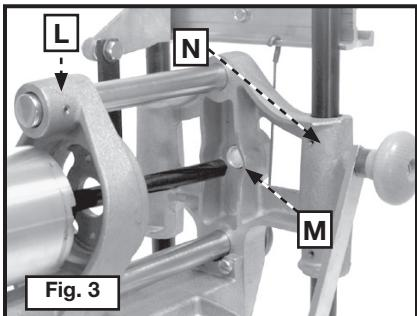
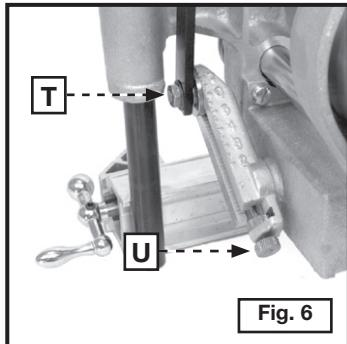
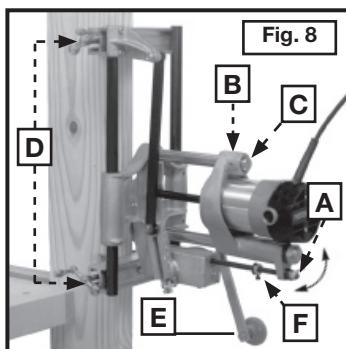
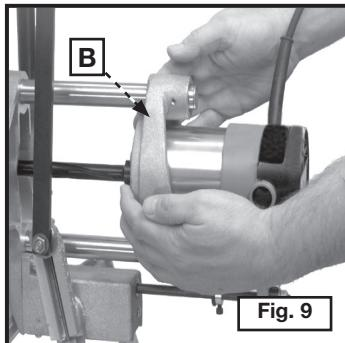

Fig. 3
Fig. 6
Fig. 8
Fig. 9
2. Insert the splined cutter shaft (Fig. 3) through the motor carriage (L) and into the spiral grooved bushing (M) in the main frame (N). Orient motor as shown in Fig. 8 and seat it into the motor carriage.
Set the mortiser for the length of cut (Fig. 6). Loosen the crank pin nut (T) and turn the adjusting knob (U) until the correct graduation mark on the slide aligns with the line on the crank-pin indicating washer. If you find that the adjusting knob (U) is difficult to move, turn the crank (E) Fig. 8 until the tension is relieved. Tighten the crank pin nut (T), Fig. 6 securely.
**EXAMPLE:** If you want your mortise to be 4" (101.6 mm) long, turn the adjusting knob (U) until the Fig. 6 graduation mark aligns with the line on the crank-pin indicating washer.
2. Move the feed lever (A) to the horizontal position (Fig. 8). Pull the motor carriage (B) to the end of the guide rod (C).
3. Place the mortiser against the edge of the 2" x 6" so that the clamps are firmly seated. The crank (E) will be free to revolve. Tighten the clamp handles (D) securely to hold the mortiser in position.
4. Move the feed lever (A) to the vertical position to engage the feed mechanism.
6. Turn motor switch "ON" and rotate the crank (E) until the collar (F) hits the feed housing, stopping the depth of cut and completing the mortise.
8. Move the feed lever (A) to the horizontal position.
9. Grasp the motor carriage (B) Fig. 9 with both hands and pull toward you until the bit is clear. Remove the mortiser from 2" X 6".